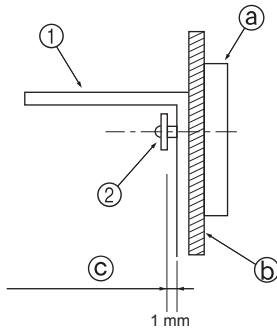

Fig. 3-4
- First, mount the bracket on the wall and then tighten the screw so that the bracket can slide up and down. (Fig. 3-4)
- ① Tip-over prevention bracket
- ② Tapping screw
- ③ Frieze
- ④ Wall surface material
- ⑤ Gap of about 1 mm